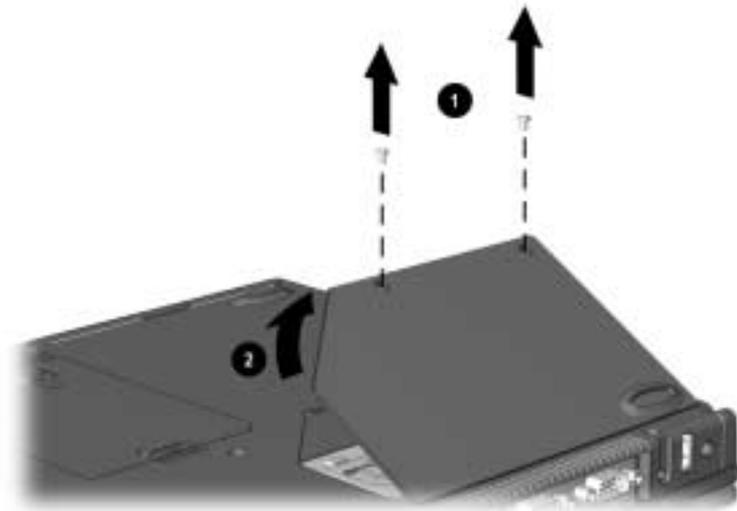

Figure 5-3. Removing the Mini PCI Slot Cover
3. Remove the two screws **1** that secure the mini PCI slot cover to the base enclosure (Figure 5-3).